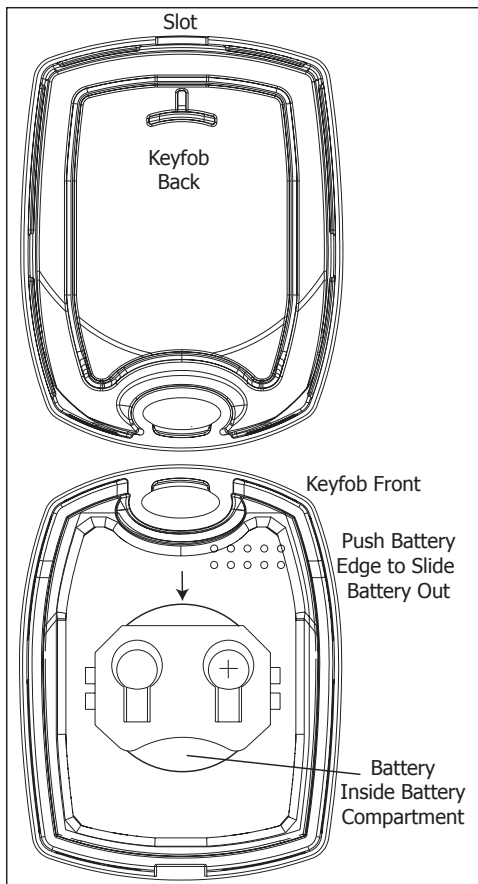

Figure 3: 1145 Battery Location
2. If replacing the battery, push and slide the old battery out of the holder in the direction of the arrow to remove it. See Figure 3.